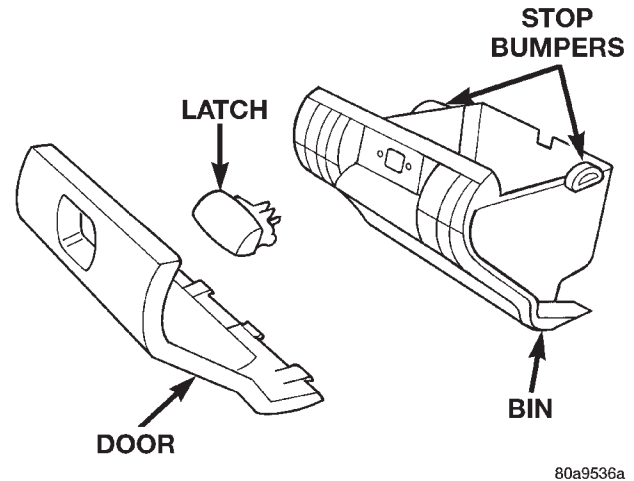

Fig. 25 Glove Box Components Remove/Install
(1) Disconnect and isolate the battery negative cable.
(2) Remove the glove box from the instrument panel. See Glove Box in the Removal and Installation section of this group for the procedures.
(3) Remove the two screws that secure each outboard flange of the glove box bin to the glove box door (Fig. 25).
(4) Remove the two remaining screws in the bottom of the glove box bin (the center screw was